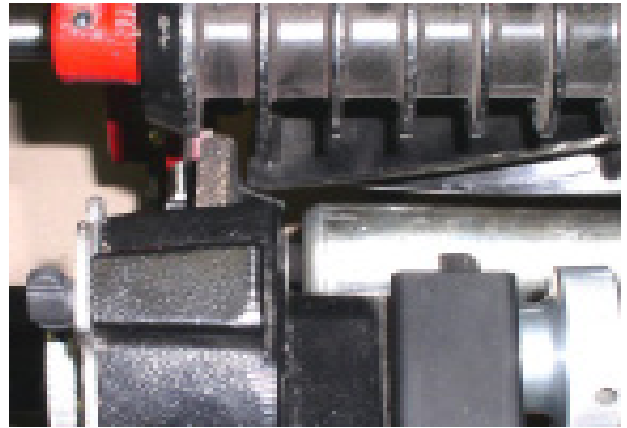

FIG. 69
C. Reset the Traverse Limit Proximity Switch so the grinding wheel clears the reel at both ends by approximately 1/16" (1.5 mm) or the reel blade comes off the relief finger on the right side. See FIG. 69 - 72.
M. Traverse the grinding head all the way to the left prox switch watching for proper clearance between the grinding wheel and the blade. When the grinding head reaches the left prox, the index finger should pop forward. See FIG. 70. The grinding wheel should come off from the reel blade, but the reel blade should remain on the fixed relief finger. See FIG. 69 Check for proper clearance between the index finger and the front side of the blade on the return trip to the home position. See FIG. 71.